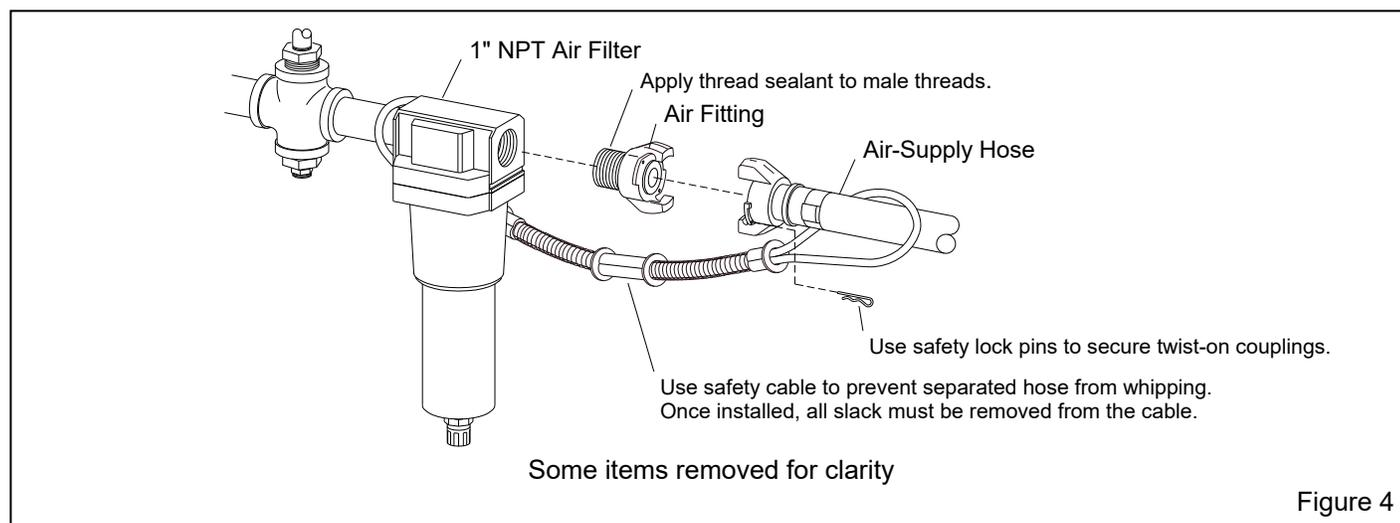

Figure 4
**2.2.1** Apply thread sealant to the male threads of an air fitting that is compatible with the air-supply hose fitting, as noted in Section 2.2.2, and install it onto the 1-NPT air filter located at the blast machine inlet, as shown in Figure 4. The style of connection shown is for reference only.